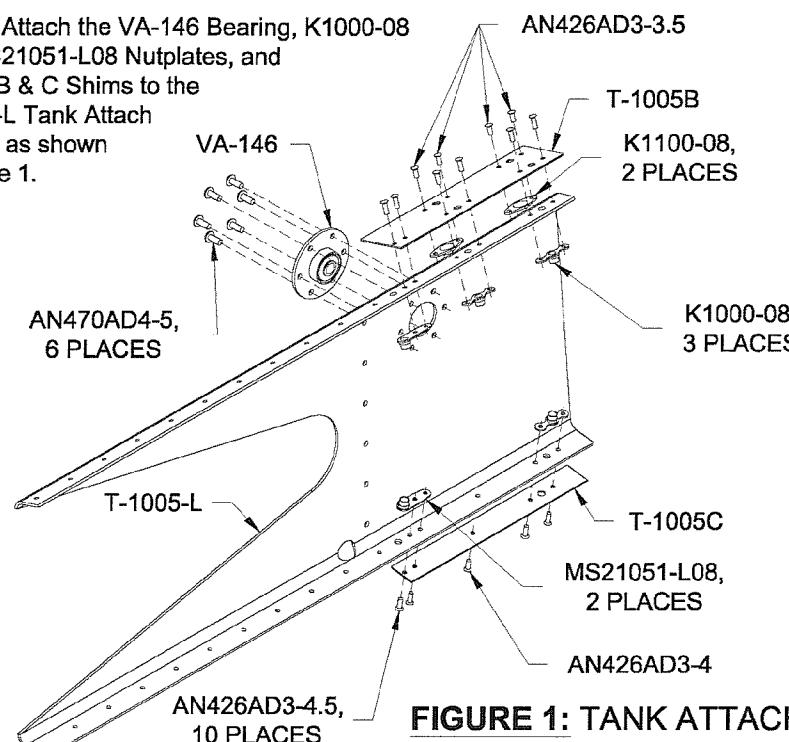

FIGURE 1: TANK ATTACH BRACKET SUB-ASSEMBLY
Step 3: Study Figure 1 until there is no question as to the position and/or orientation of each part or hardware item.
Step 4: Dimple the two #19 holes in the T-1005B Shim which will have K1100-08 Nutplates attached. Dimple the K1100-08 Nutplates and the corresponding nutplate attach rivet holes in the shim. Rivet the K1100-08 Nutplates to the shim as shown in Figure 1.
Step 5: Attach the VA-146 Bearing, K1000-08 and MS21051-L08 Nutplates, and T-1005B & C Shims to the T-1005-L Tank Attach Bracket as shown in Figure 1.